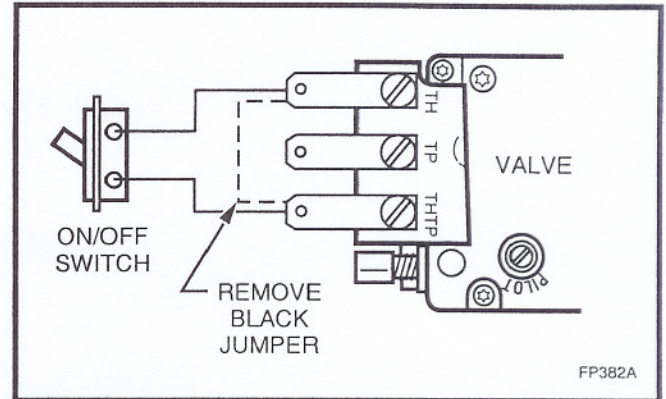

Fig. 7. Remote switch wiring.
3. Connect wiring to gas valve. Loosen the screws, remove jumper as shown in Fig 7. Install one lead from the wall switch to TH. Install the other lead to TH/TP.